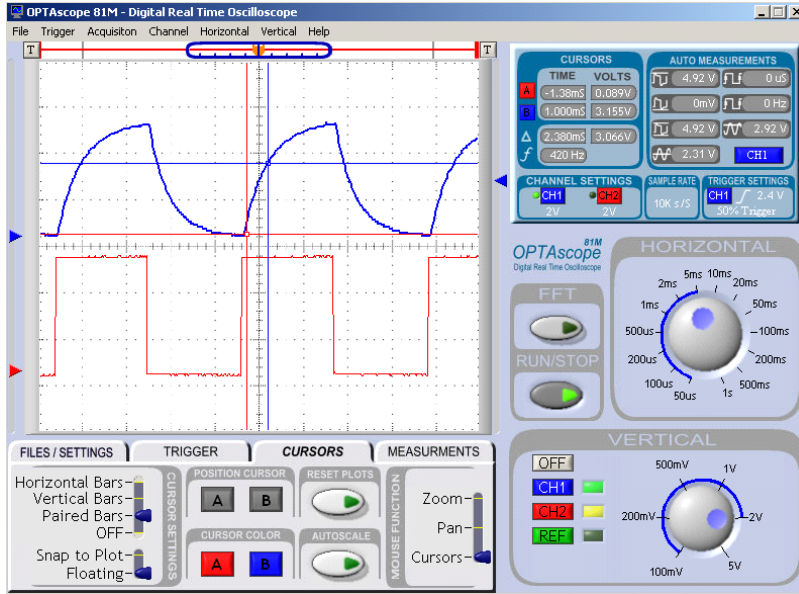

Figure 4-8: Paired Bars positioned at the start of the capacitor charge (0V) and at 3.15 V
- √ Move the blue horizontal cursor to 3.15 V. It should automatically track the signal. If you “lose” a vertical cursor bar, slide the Plot Area Indicator bar left or right; you should be able to find your “missing” cursor and drag it back into the view area. Your screen should look like Figure 4-8.